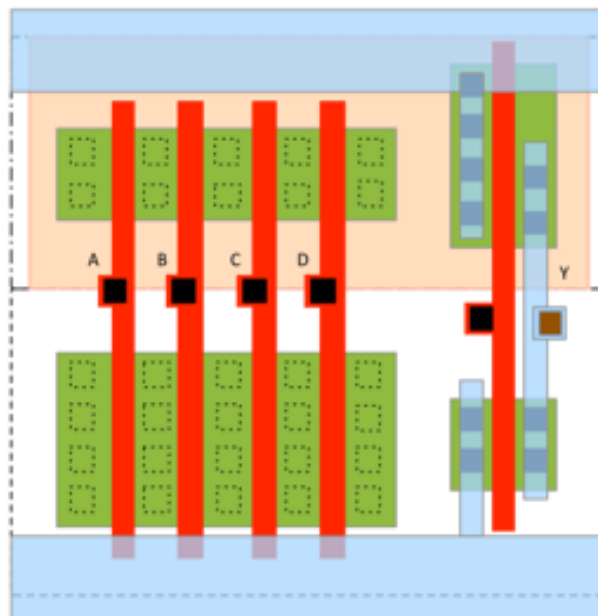

Figure 8.1: Template for 4-input AND gate.
- In the cell layout template in Figure 8.1 you see the layout of one inverter to the right. To the left of that inverter is a continuous-line-of-diffusion template. Draw the layout for the 4-input NAND gate there; also